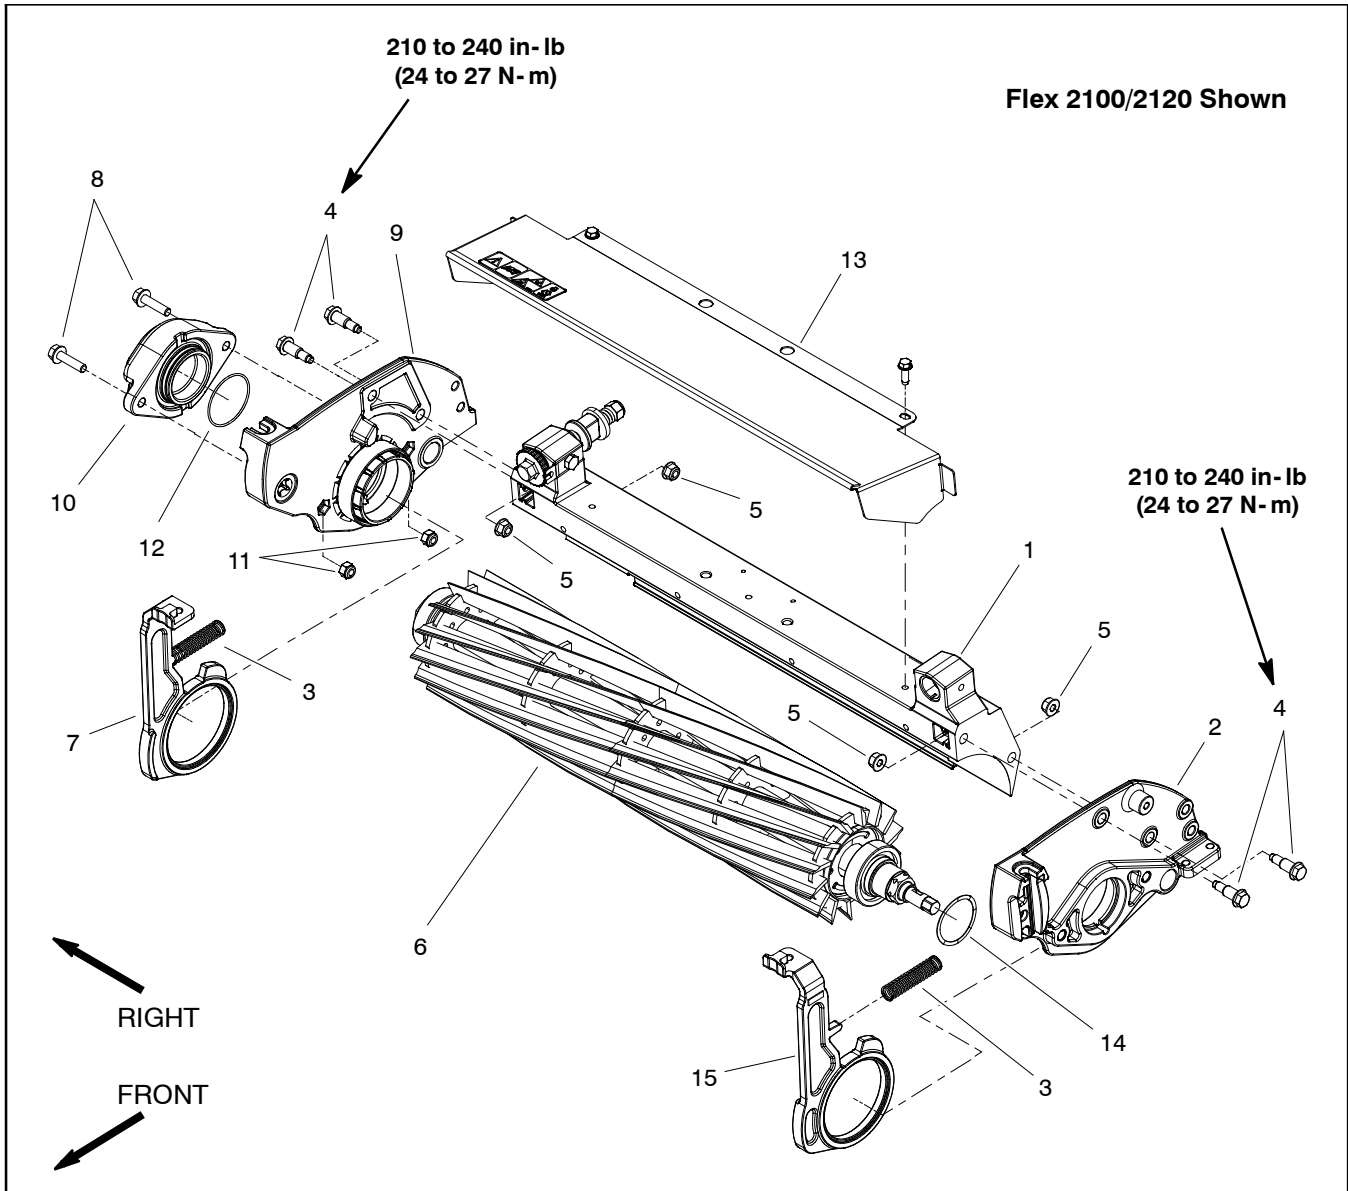

Figure 27
NOTE: Flex 2100/2120 cutting units use shoulder bolts (item 4) and flange nuts (item 5) to secure the side plates to the crossmember as shown in Figure 27. On Flex 1800/1820 cutting units, square nuts are used instead of flange nuts. Cutting unit service procedures are the same on both models.
Reel Assembly Removal (Fig. 27)
Reel Assembly Installation (Fig. 27)